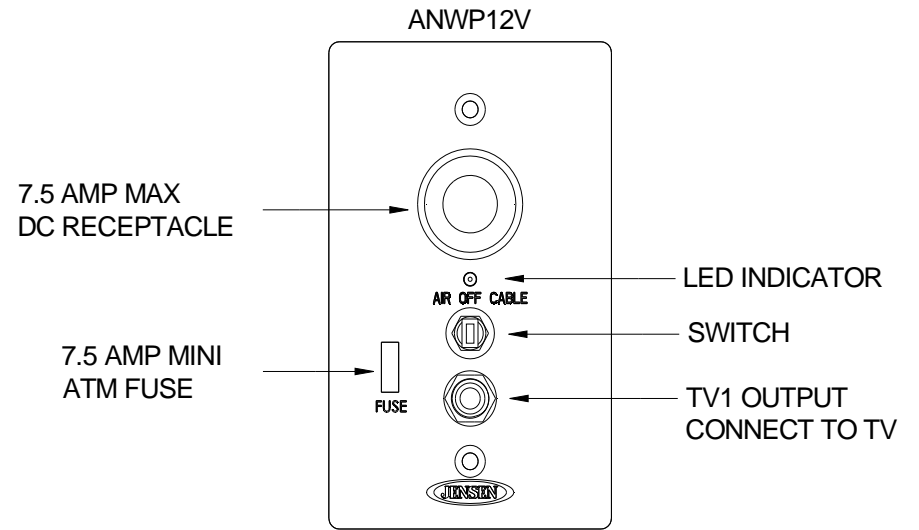

FIGURE 8
1. Select the desired source by moving the switch located on the front of the wall plate. Select either "AIR" or "CABLE". AIR will activate the roof mounted antenna which will provide over-the-air TV and AM/FM reception. Selecting CABLE will enable you to receive signals from your external Cable Service provider and AM/FM reception. Selecting "OFF" will disable the system completely and is recommending when the vehicle is not in use or storage. Note the Red LED indicator will be On in the "AIR" & "CABLE" positions. See Figures 8 & 9.